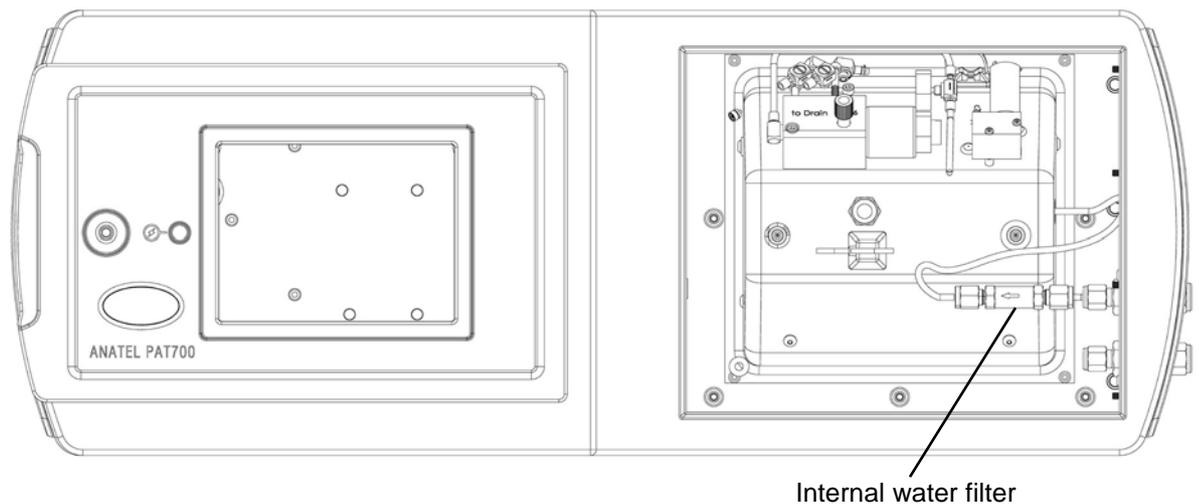

Figure 12-2 PAT700 with bottle bay door open to reveal internal water filter
- 3) Unlatch the door and swing it open on its hinges. See Figure 12-2.